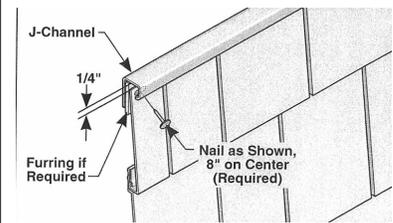

Fig.17
*NOTE: A crown molding, J-channel or wide window casing can be used in eaves and gables to receive the final course (see Figure 17).*